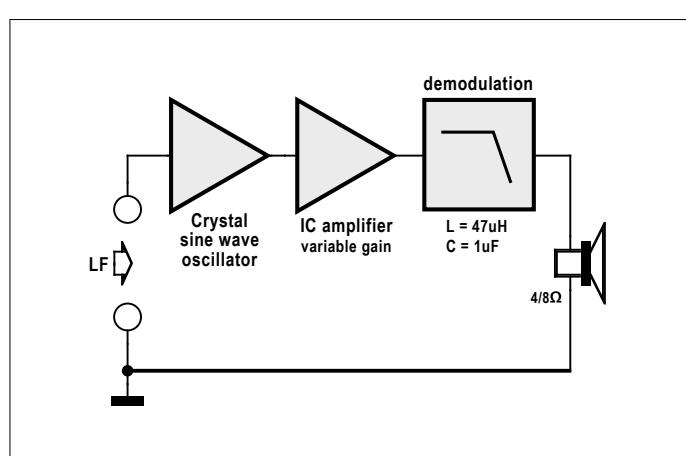
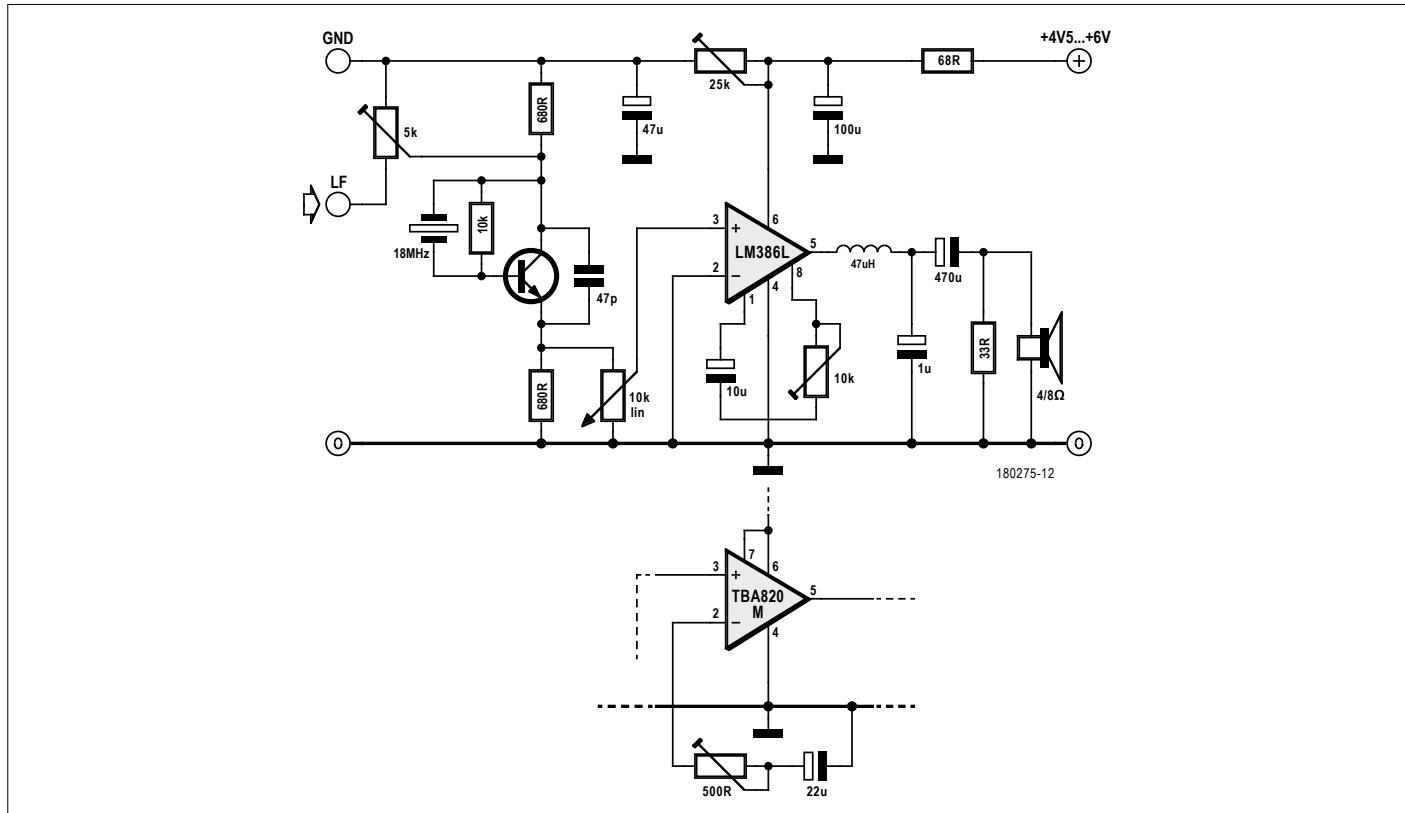

Figure 1. Sinusoidal self-oscillating FM amplifier.
Figure 2. A frequency-modulated LF amplifier using an LM386 or TBA820M.
My own personal opinion is that VHF frequency modulation (FM) is one of the most important inventions in the field of electronics! Find out for yourself and probe a bit deeper by building the really simple experimental test setup shown in **Figure 1**. The sinewave generator is built using a capacitive 'three-point oscillator' circuit. The circuit of the self-oscillating sinewave generator (**Figure 2**) is built around a single transistor which produces a 'pullable' oscillator. This allows an externally applied voltage to modulate the crystal operating frequency. The 10-k Ω resistor between the base and collector of the transistor adds some damping to de-tune the oscillator network which has the effect of widening its pull-in range.